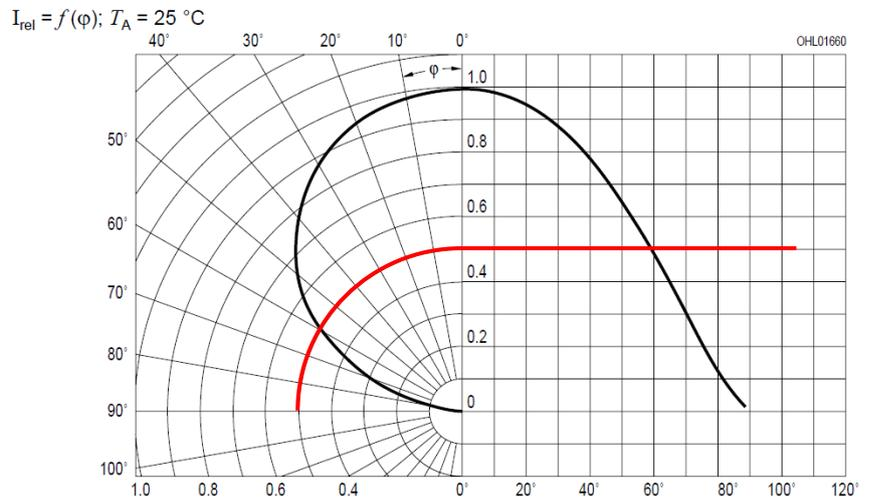

Fig. 1: Typical Radiation Characteristic of an SMD LED (by courtesy of Osram)
An LED display uses an array of light-emitting diodes (LED) as a video display. By default, LED display technology is a light emitting technology. Independent of which type of LED is used (SMD1 or TH RGB), light is radiated from each individual LED, whereas the intensity of light depends on where it is adopted relative to the screen. This differs between maximum (perpendicular to the LED) and zero if the angle exceeds 90° as per Fig. 1 below.
In Fig. 1 the Intensity (I) is shown relative to the angle, whereas  $0^\circ$  is perpendicular to the light source or the LED. As per definition the viewing angle is defined as the angle where the measured light intensity is 50% of its maximum value, as per the red line in Fig. 1. For this LED, which is typical for other SMD LEDs as well, the viewing angle to 50% brightness is  $60^\circ$ .